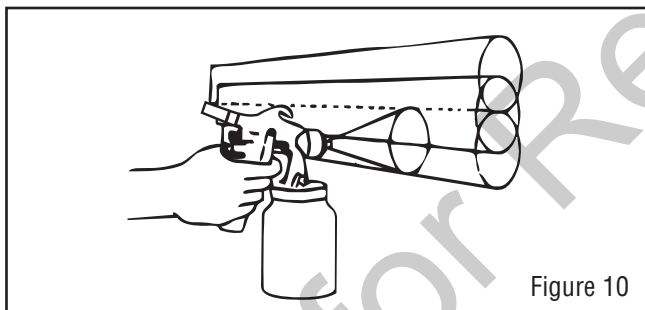

Figure 10
7. Overlap strokes just enough to obtain an even and fine coat. (See Figure 10)